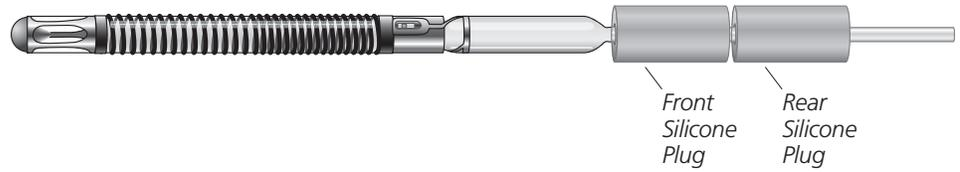

Figure 5.33 Impella® LD Catheter with Silicone Plugs
6. Moisten the Impella® LD Catheter and push both silicone plugs up against the motor housing as shown in Figure 5.33.